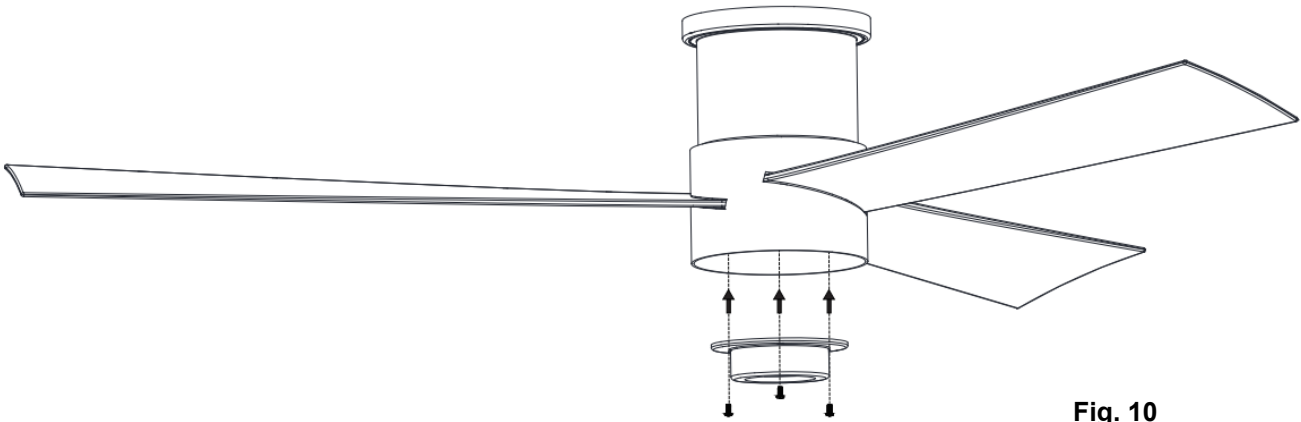

Fig. 10
2. Install the adapter onto the fan bracket, and secure it by tightening the three screws. (Fig. 10)